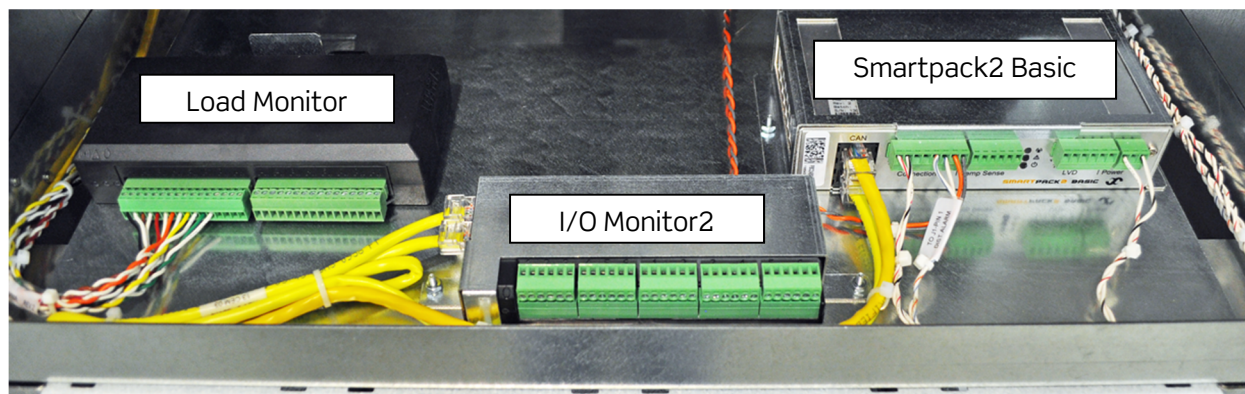

Figure 26 - Control and Monitoring Tray
GJ panels are designed for larger load applications and have a single output bus. All GJ panel configurations are rated at 1200A. There are twelve (12) mounting positions. Panel configuration is based on the style of current protection desired. Components for each configuration (e.g., protection devices, adapter plates, shunt monitors) are installed at the factory. A Load Monitor unit is provided when shunts are installed (see Figure 26 on page 24).